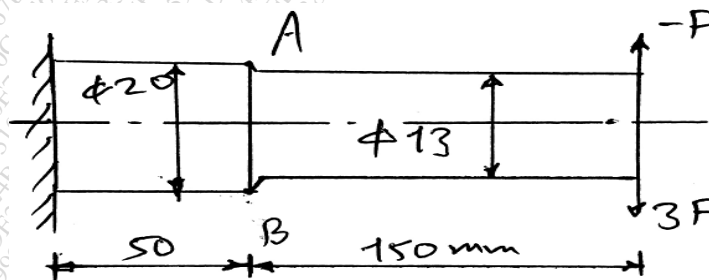

Figure 2.
Q.7 A cantilever beam made of cold drawn carbon steel of circular cross section as shown in figure 2 is 200 mm long is subjected to a load which varies from- F to 3F. Determine the maximum load that this member can withstand for an indefinite life using a factor of safety as 2. Fatigue stress concentration factor 1.3 , assume the following values ultimate stress = $550\text{N/mm}^2$  , yield stress  $470\text{N/mm}^2$  endurance limit= $275\text{N/mm}^2$ . Size factor ( $K_{\text{size}}$ ) =0.85, surface finish factor ( $K_{\text{surface}}$ )=0.89 13